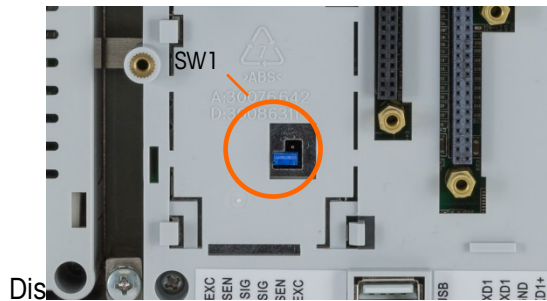
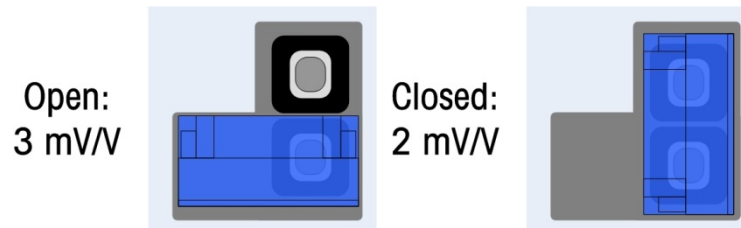

Figure 2-61: W1 Millivolt Jumper Location, Main PCB
Figure 2-62: W1 Millivolt Jumper Positions
The IDNet version of the IND570 main board has no jumpers. There is one jumper on the IND570 analog scale main board (W1). This jumper selects either 2 mV/V or 3 mV/V operation of the analog circuitry. 3mV/V is the factory default position. Refer to Figure 2-61 for the jumper location and Figure 2-62 for its settings.
- When removing the W1 jumper for 3mV/V operation, reposition it on just one of the pins, as shown in Figure 2-61 and at left in Figure 2-62. If this jumper is not correctly positioned, the plastic cover over the Main board will not fit properly. If this occurs, do not force the plastic cover down. Remove the cover and position the jumper as shown.